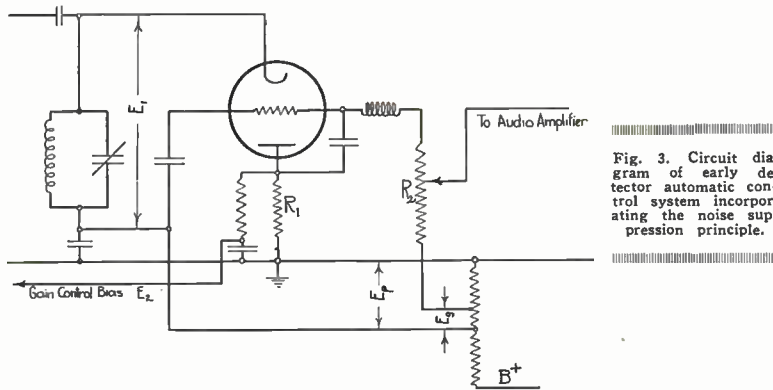

Fig. 3. Circuit diagram of early detector automatic control system incorporating the noise suppression principle.
Fig. 3 illustrates a type of audio detector and automatic control arrangement including noise suppression which has been incorporated in one make of commercial receiver on the market for over a year. Two diode rectifiers in the same envelope and having a common cathode are connected across the tuned input circuit and supplied with a carrier input voltage E_1 corresponding to the voltage level at point (1) in Fig. 1. A vacuum tube suitable for this purpose is a typical triode Type 227. One rectifier circuit includes the bias-developing resistor R_1 in conjunction with the plate and cathode of the tube and is used to furnish automatic control bias to preceding amplifier stages. The elements just mentioned including the delay bias E_p constitute the unit J of Fig. 1 operating on an input E_1 and delivering a bias E_g for control. The other rectifier circuit comprising the resistor R_2 in conjunction with the grid and cathode of the tube is used as a detector. These last-named elements together with the small delay bias E_g constitute at the same time the unit K of Fig. 1 operating on an input E_1 , point (3) is at point (1), and arranged to render the system from point (1) to the audio output I insensitive to carrier levels below a peak value corresponding to E_g . Since E_g is preferably smaller than E_p , the action of the device is such that for increasing antenna inputs the elements constituting K in Fig. 3 are at first acting to cut off transmission beyond point (1) and then, at a peak value of E_1 corresponding to E_g , are acting to restore the transmission beyond point (1) to the audio output. At still higher values of antenna input corresponding to $E_1 = E_p$, the normal automatic gain control action through R_1 begins.
It will be apparent that unit K of Fig. 2 need not itself form a transmission path for the signal beyond E_1 , but may be simply a bias-developing agency such as a rectifier or a rectifier and amplifier, serving to control transmission beyond (1). Such a system was put into operation in connection with a special fixed-frequency receiver operating under adverse noise conditions. In this case the rectifier-amplifier stage K received its input from a point in unit J, and delivered its output to the audio system beginning at (1) so as to automatically vary the bias E_g of Fig. 3.